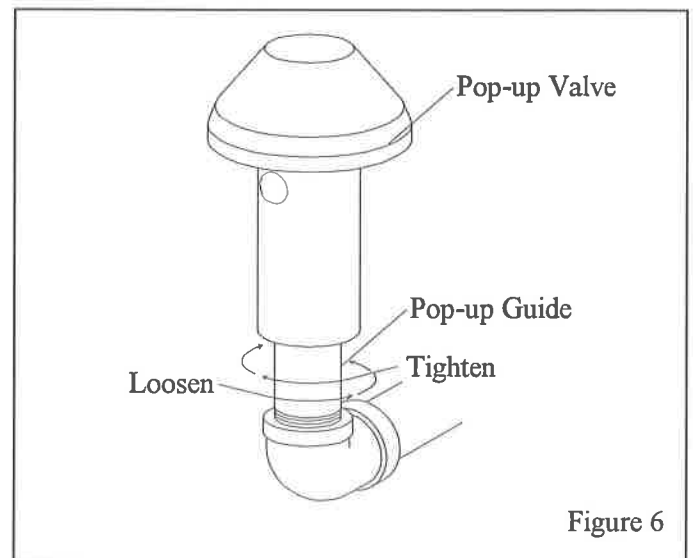

Figure 6
6.3 Replacing the Pop-Up Valve, Figure 6